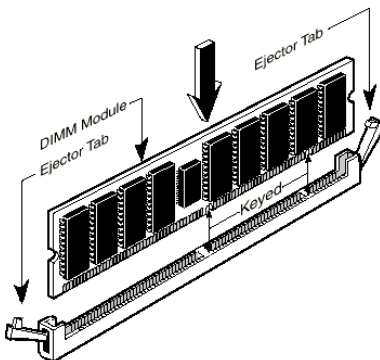

Figure 2-4. Memory module installation
- Step 5.** Insert the DIMM module into the expansion socket as shown in the illustration. Note how the module is keyed to the socket. You can refer to figure 2-4 for the details. ***This ensures the DIMM module will be plugged into the socket in one way only.*** Firmly press the DIMM module into the DIMM socket, making certain the module is completely seated in the DIMM socket.